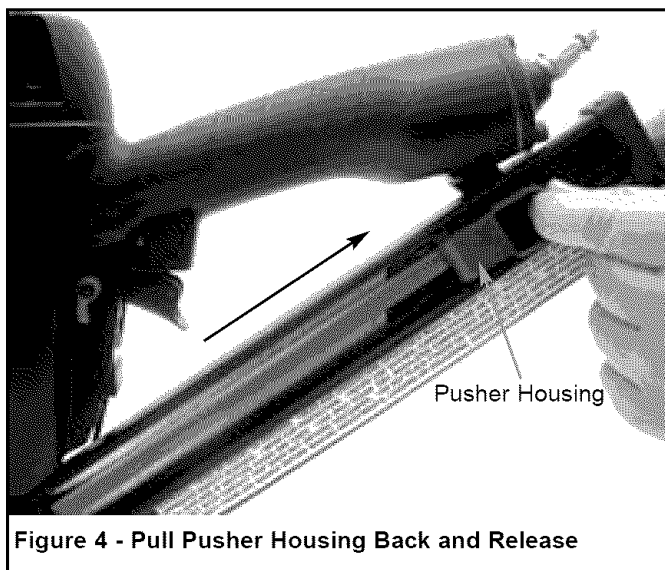

Figure 4 - Pull Pusher Housing Back and Release
- Grasp the pusher housing and pull it back until the pusher is completely behind the nail strip. Then release the pusher housing. The housing will travel forward and the pusher will apply pressure to the nail strip, pushing it into the driving mechanism (see Figure 4).